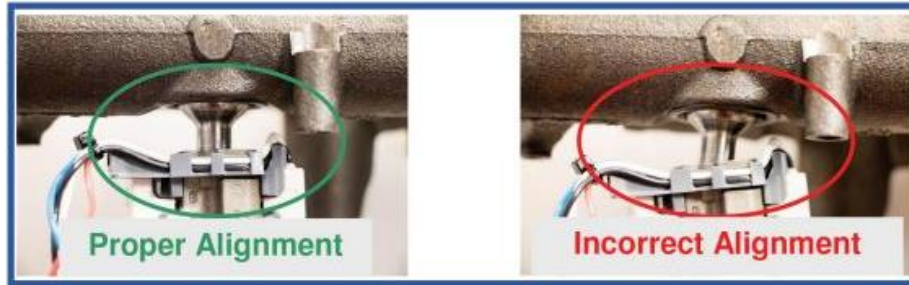

FIGURE 5
- Installation damage to D-ring from misaligned Ball Tubes (Check Figure 5)